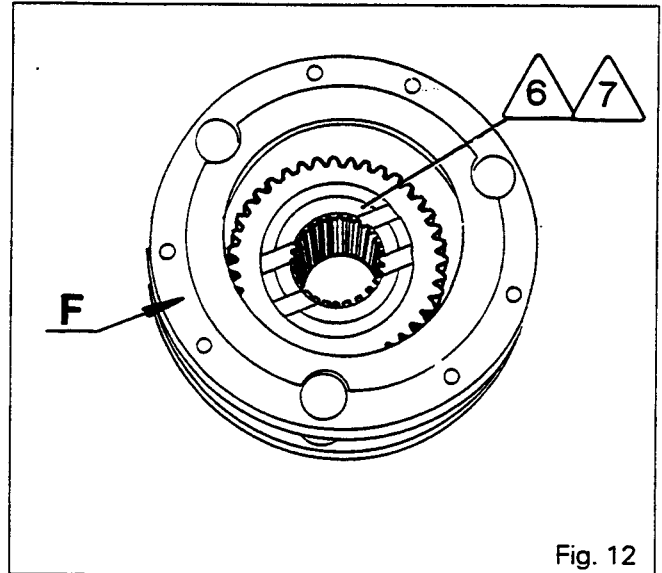
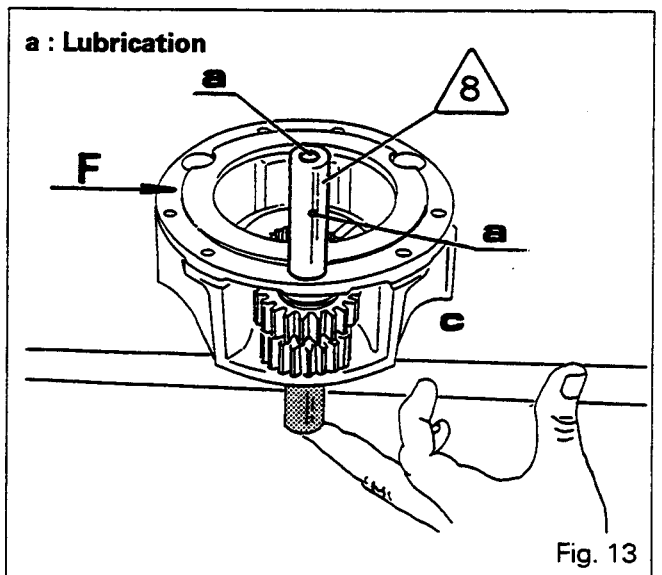

Fig. 12
Fig. 13
32. Fit the 39 tooth sun gear /6\ into the planetary carrier cover (Fig.12).
33. Fit the 36 tooth sun gear /7\ into the planetary carrier cover (Fig.12).
34. Fit the 39 tooth sun gear /6\ into the planetary carrier cover (Fig.12).
**N.B. : In all versions, fit the gear so that the lubricating grooves in it are facing towards face F of the planetary carrier cover (Fig.12).**
35. Fit a needle-roller bearing (11), a spacer (14) and a needle-roller bearing (16) into a planetary gear /12\.
36. Fit an assembled planetary gear into the cover, with the following gears closer to face F in the respective cases (Fig.13) :
37. Fit washers (10) and (17).
38. Line up the planetary gear and washers with a locating rod made up locally : diameter = 16 mm, length = 80 mm (Fig.13).
**The oilway opening onto the endface of spindle /8\ must face towards face F of the planetary carrier cover (Fig.13).**